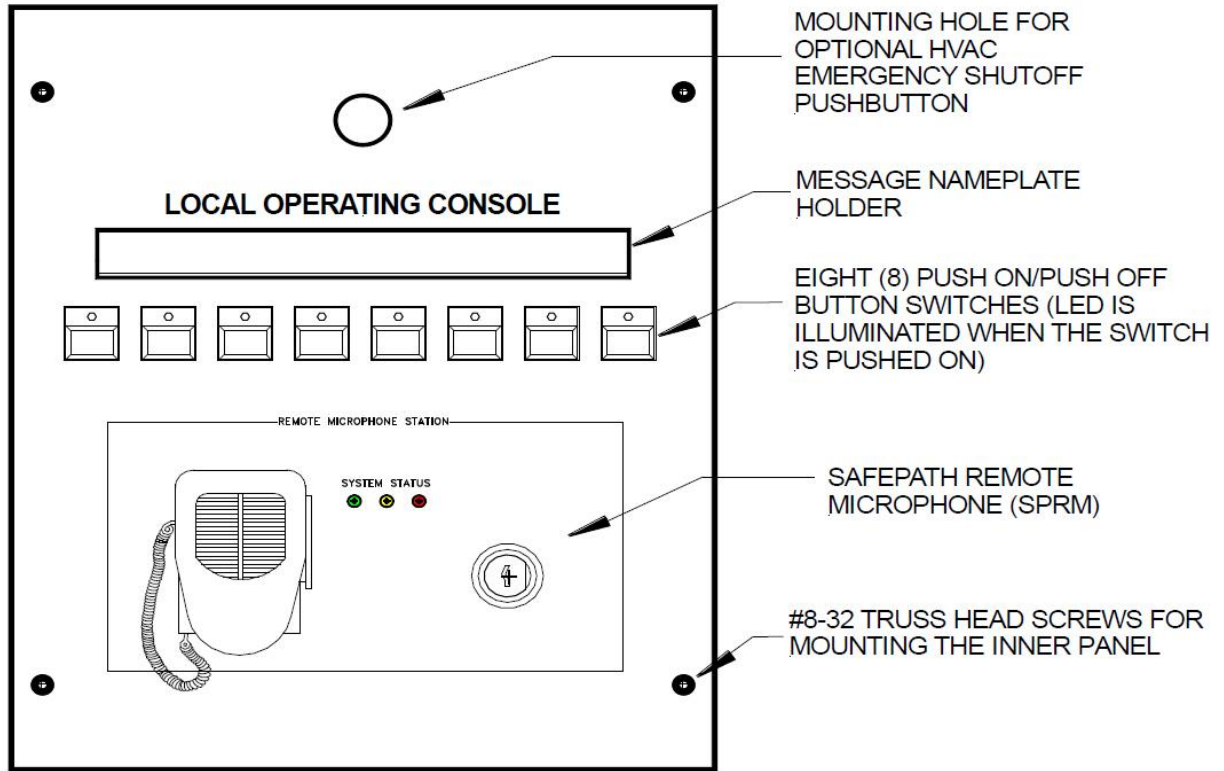

Figure 2: Inner Panel Assembly
1. Remove the FRONT DOOR ASSEMBLY from the backbox by removing the eight (8) nuts holding the assembly in place (flush-mount only).
2. Remove the INNER PANEL ASSEMBLY (Figure 2) from the backbox.